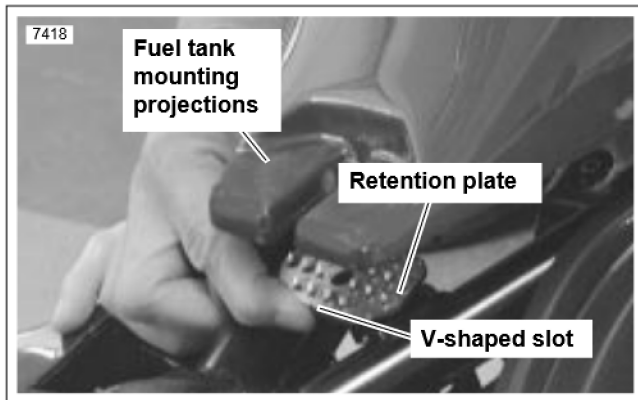

Figure 3. Bottom Plate
- S1/S1W/S3/S3T Models:** See Figure 3. Carefully raise the back of the fuel tank and place a mounting plate and a retention plate in position on the frame. Make sure shorter straight side of both retention plate and mounting plate face to rear of vehicle.
- M2/S2/S2T Models:** See Figure 3. Carefully raise the back of the fuel tank and place a retention plate in position on the frame. Make sure shorter straight side of retention plate faces to rear of vehicle.